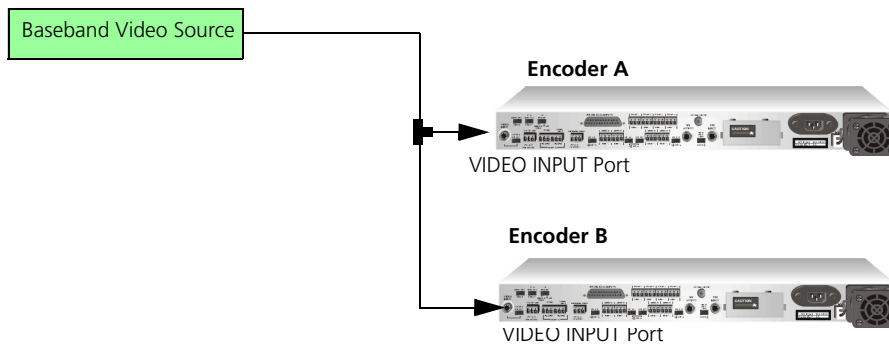

Figure 5-6. Baseband Video In Connection
1. Connect a baseband video source input cable to the VIDEO INPUT ports of two encoders (A and B in Figure 5-6 below) using a T-connector.